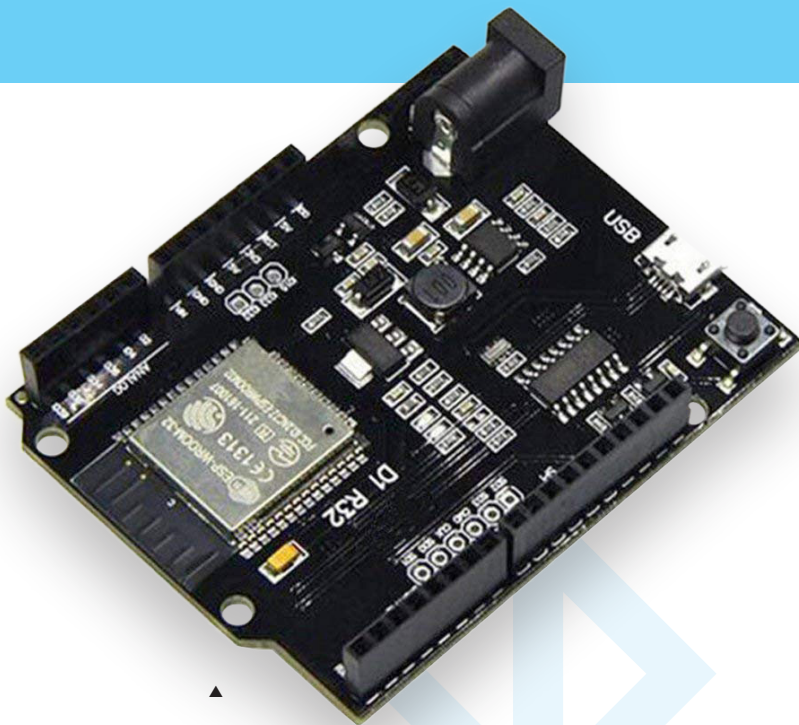

Figure 1: WeMos D1 R32 ESP32 Wi-Fi / Bluetooth development board.
- A microcontroller board (**Figure 1**) with a connected infrared receiver for learning existing codes from other remotes, and an infrared transmitter for performing the main job of sending commands to your TV, set-top box, etc. The board also stores the learned codes.